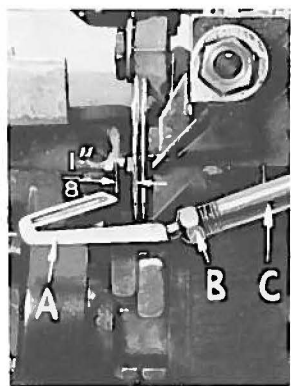

Fig. 4
At this point, insert lower looper (A, Fig. 4) into bar (C). With lower looper at the left end of its stroke, set the looper point 1/8 inch from center of left needle, using looper gauge No. 21225 G-1/8. Do not have lower looper deflecting the needles. Tighten nut (B).